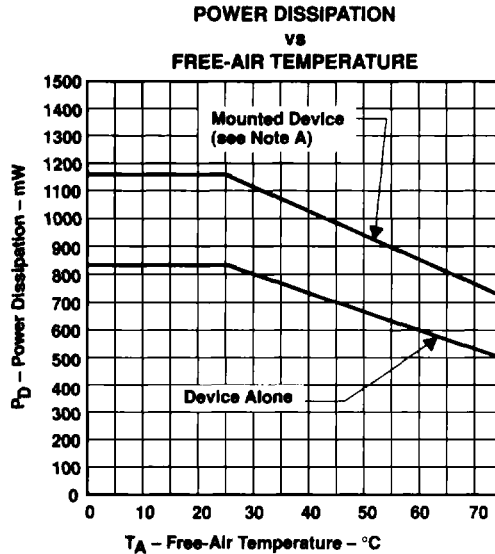

Figure 3
| Continuous total power dissipation, $T_A \leq 25^\circ\text{C}$: Unmounted device (see Figure 3) DW package | 825 mW |
| Mounted device (see Figure 3) DW package | 1150 mW |
- NOTE A: The mounted-device derating curve in Figure 3 was obtained under the following conditions: